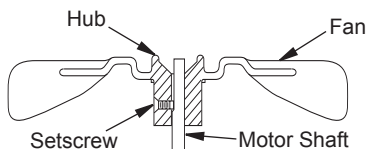

Figure 8 - Fan Cross Section
6. Replace fan on motor shaft. Make sure setscrew is touching back of flat surface on motor shaft (see Figure 8, page 7).